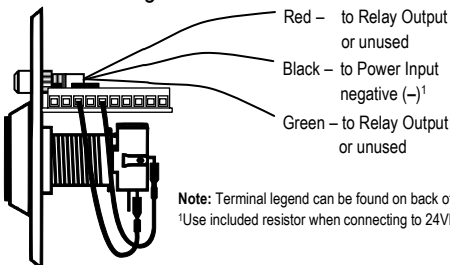

Figure 8
- b. For status LED (and pushbutton LED) normally on in standby mode, with status LED changing colors when button is pressed, then returning to standby mode when timer delay ends (see Fig. 8):